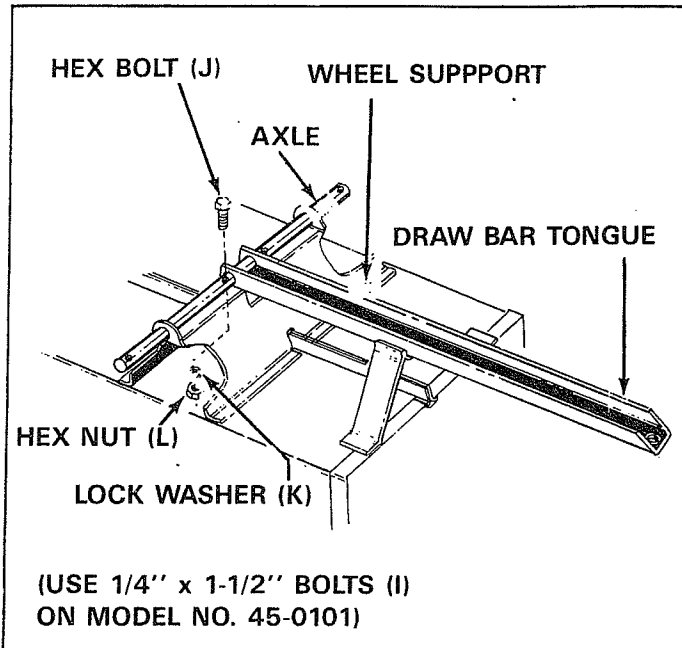

FIGURE 12
- Assemble axle and draw bar tongue to wheel support keeping open side of tongue facing up, make sure that latch lock snaps over latch stand. Secure axle to wheel support or axle brackets, using 1/4" x 1-3/4" long hex bolts (J), lock washers (K) and hex nuts (L). See figure 12.